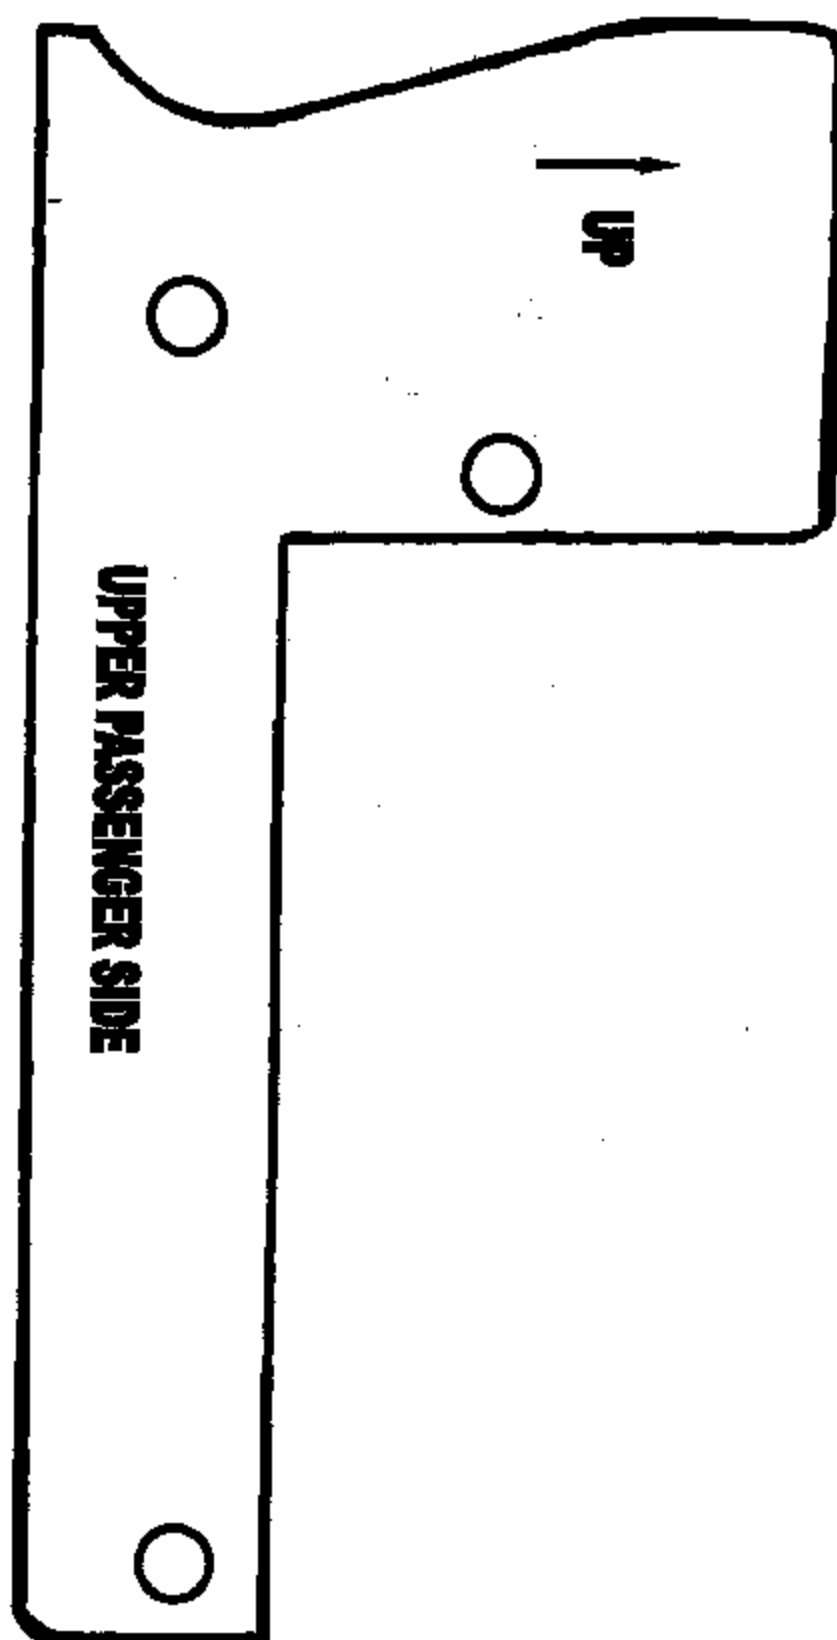

**Figure 3**
2. Release the two (2) rear seat cushion clips and remove the rear seat cushion from the vehicle.
3. Remove six (6) rear seat back nuts and then remove the seat back from vehicle.
6. Make full size copies of the five (5) templates on pages 7 – 11. Cut out the templates and place them on the vehicle as shown in Figure 3.
7. Mark the 18 locations shown in Figure 3 on the rear floorpan reinforcement with a center punch, permanent marker or paint pen.
14. Install the rear seat back. Tighten the six (6) seat back nuts to 35 ft-lbs (47 N·m).